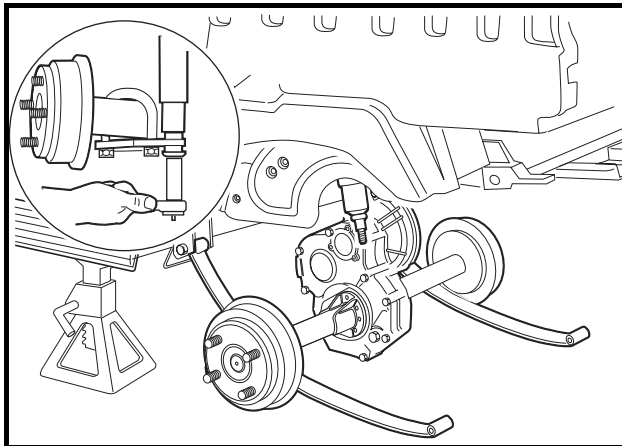

Figure 26-3 Lower Axle
6. Remove the nut, cup washer, and bushing from the bottom side of the shock absorber. Compress the shock absorber (pushing upwards) to move it out of the way (**Figure 26-3, Page 26-3**).
8. To gain easier access to the motor, lower the transaxle as low as it will go. If more room is needed, remove the jack from beneath the transaxle and allow the springs to rest on the floor (**Figure 26-3, Page 26-3**).